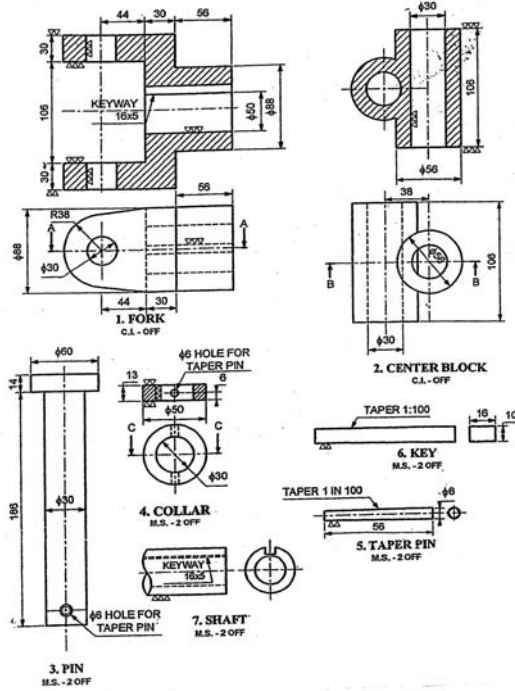

Fig. No. 05
b) Fig. No. 05 shows details of universal coupling. Draw sectional F.V., T.V. of the assembly and prepare bill of material. Indicate type of fit.